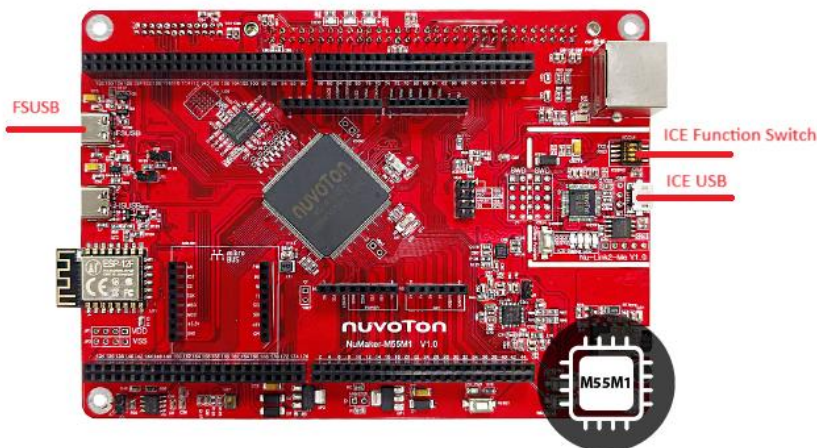

Figure 3-1 NuMaker-M55M1 Board
2. Connect ICE USB port to PC (Figure 3-1).